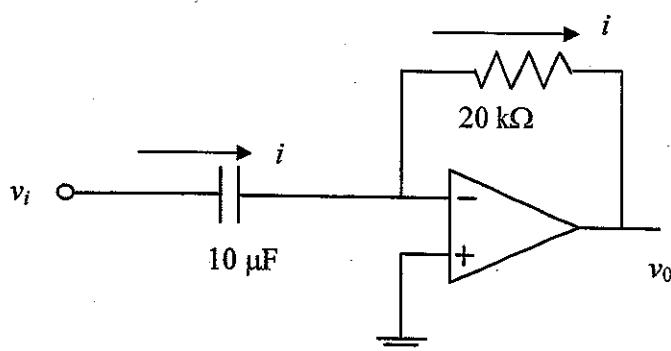

Fig. 3 Differentiator circuit
Similarly, the circuit in Fig. 3 acts as a differentiator and the output voltage is given as:
7. Implement the differentiator circuit in Fig. 3.